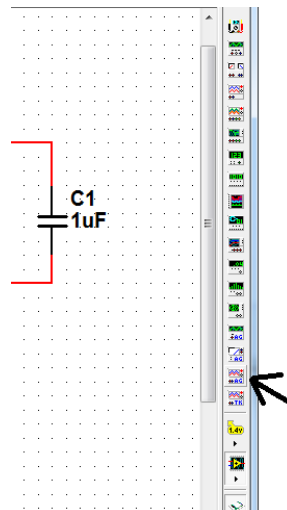

Figure 2: Agilent Oscilloscope
1. Click the Agilent oscilloscope in the right tool bar as shown by the arrow in Figure 2 and place it on the schematic window.